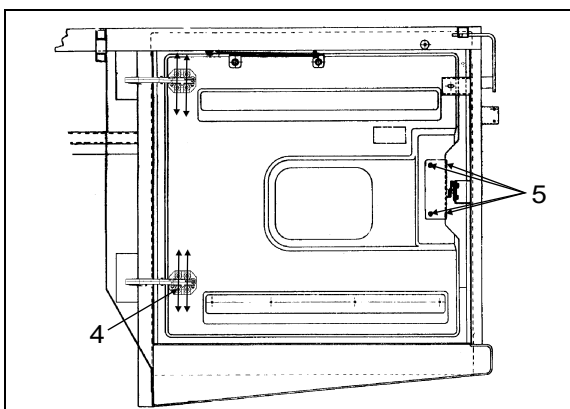

FIGURE 72: ENGINE COMPARTMENT R.H. DOOR
8. Loosen screws (4, Figure 72).